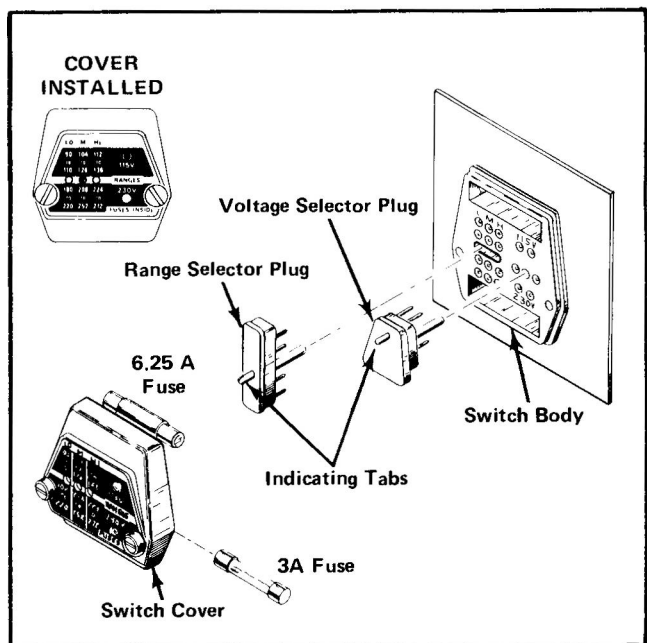

Fig. 2-5. Voltage Selector assembly. Oscilloscope serial number 7980 and above.
To convert from one nominal line voltage to the other and/or change regulating ranges, use the following procedure. (See Fig. 2-5)
3. To change nominal line voltage selection, pull out the Voltage Selector plug, (see Fig. 2-5) rotate it 180° and plug it back in.
4. To change regulating ranges, pull out the Range Selector plug (see Fig. 2-5), slide it left or right to the desired position and plug it back in. Select a range which centers about the average line voltage to which the instrument is to be connected (see Table 2-2).